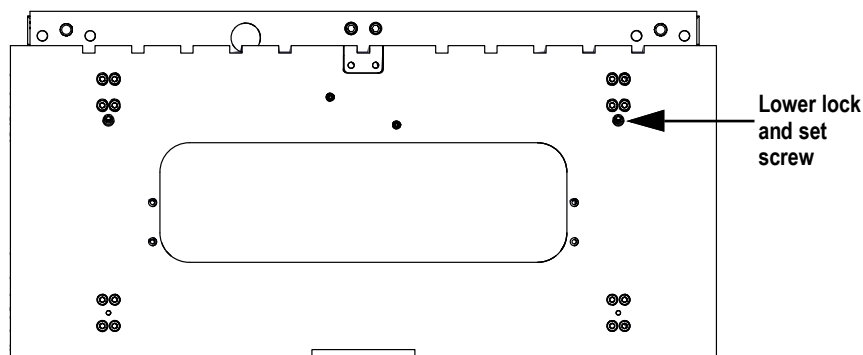

Figure 8-14. Flexure Adjustment
11. Loosen the lower set screw lock (see Figure 8-14).